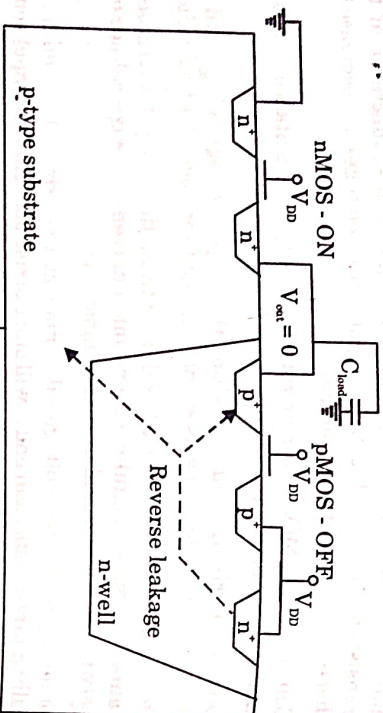

Fig. 4.14.1.
- The n -well region of pMOS is also reverse-biased with V_{DD} with respect to p -type substrate. Therefore another significant leakage current component exists because of the n -well junction as shown in Fig. 4.14.1.